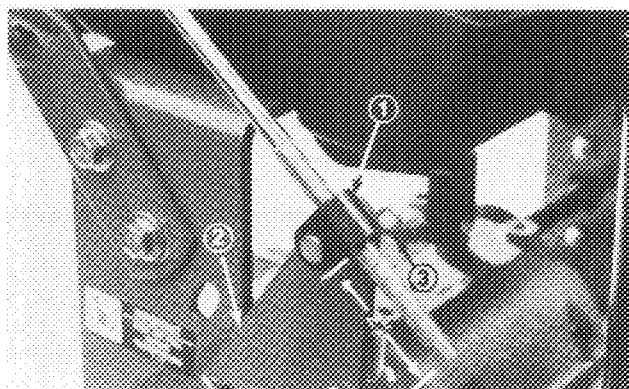
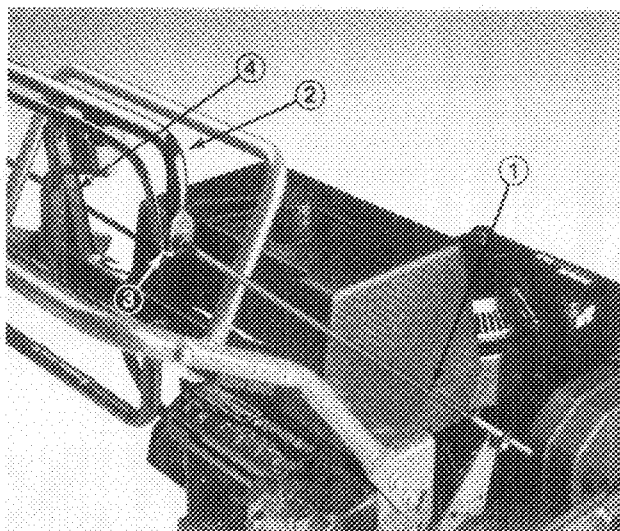

Figure 7
Figure 8
1. Thread a rod fitting onto each control rod approximately 2" (Fig. 7) or until upper control bar (Fig. 8) is perpendicular to the ground.
2. Mount rod fitting ends to mounting holes in idler brackets (from outside) with clevis pins, washers and hairpin cotters (Fig. 7).
3. Check gap between control bar and upper handle when fully engaging wheel belts. Gap should be approximately 1 to 1-1/4" (Fig. 8).
5. Brake rods should be adjusted so parking brake lever can be swung into a snug position against the upper handle while pulling back on upper control bar (Fig. 8).